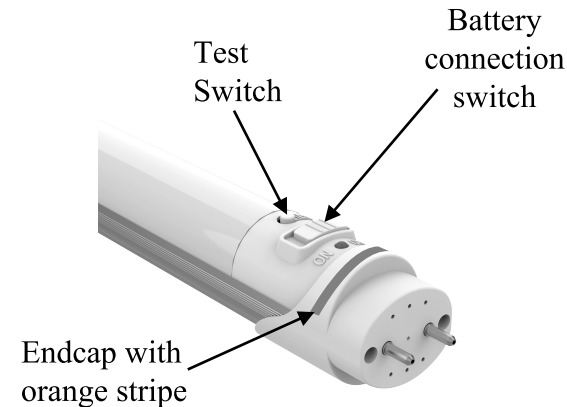

Fig. 2
8. **IMPORTANT:** Turn on a battery connection switch near the endcap with the orange stripe. The battery connection switch comes with a default “off ” to prevent the built-in battery from being depleted and damaged. The lamp may be lighted in a dimmed light level powered by the built-in battery (see Fig. 2).